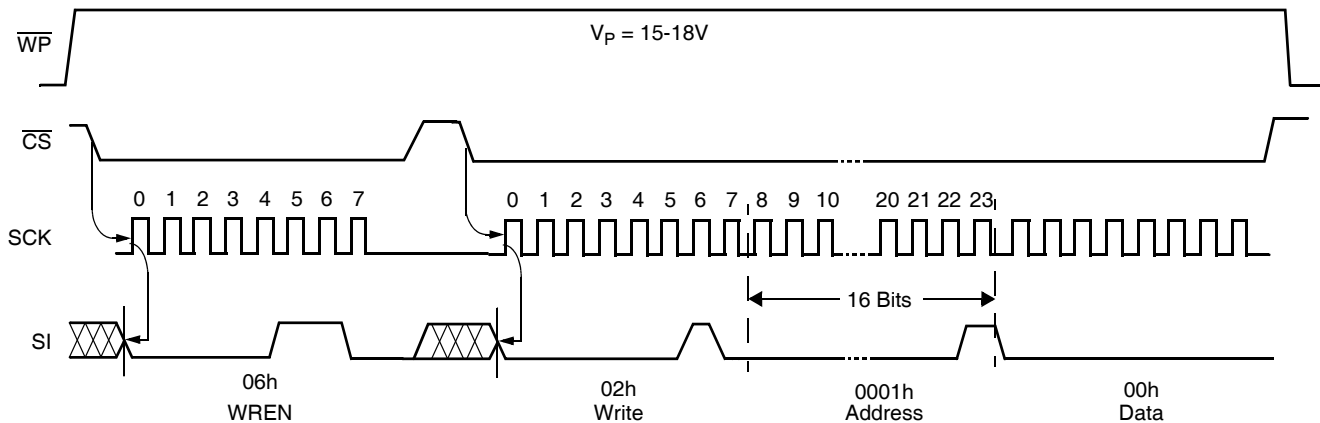

FIGURE 1. SET  $V_{TRIP}$  LEVEL SEQUENCE ( $V_{CC} =$  DESIRED  $V_{TRIP}$  VALUE)
0000 0001	<p>Write status instruction—followed by:  Block lock/WDT byte: (See Figure 1)            000WD1 WD2000 ---&gt;no block lock: 00h-00h---&gt;none of the array            000WD1 WD2001 ---&gt;block lock Q1: 0000h-00FFh---&gt;lower quadrant (Q1)            000WD1 WD2010 ---&gt;block lock Q2: 0100h-01FFh---&gt;Q2            000WD1 WD2011 ---&gt;block lock Q3: 0200h-02FFh---&gt;Q3            000WD1 WD2100 ---&gt;block lock Q4: 0300h-03FFh---&gt;upper quadrant (Q4)            000WD1 WD2101 ---&gt;block lock H1: 0000h-01FFh---&gt;lower half of the array (H1)            000WD1 WD2110 ---&gt;block lock P0: 0000h-000Fh---&gt;lower page (P0)            000WD1 WD2111 ---&gt;block lock Pn: 03F0h-03FFh---&gt;upper page (PN)</p>